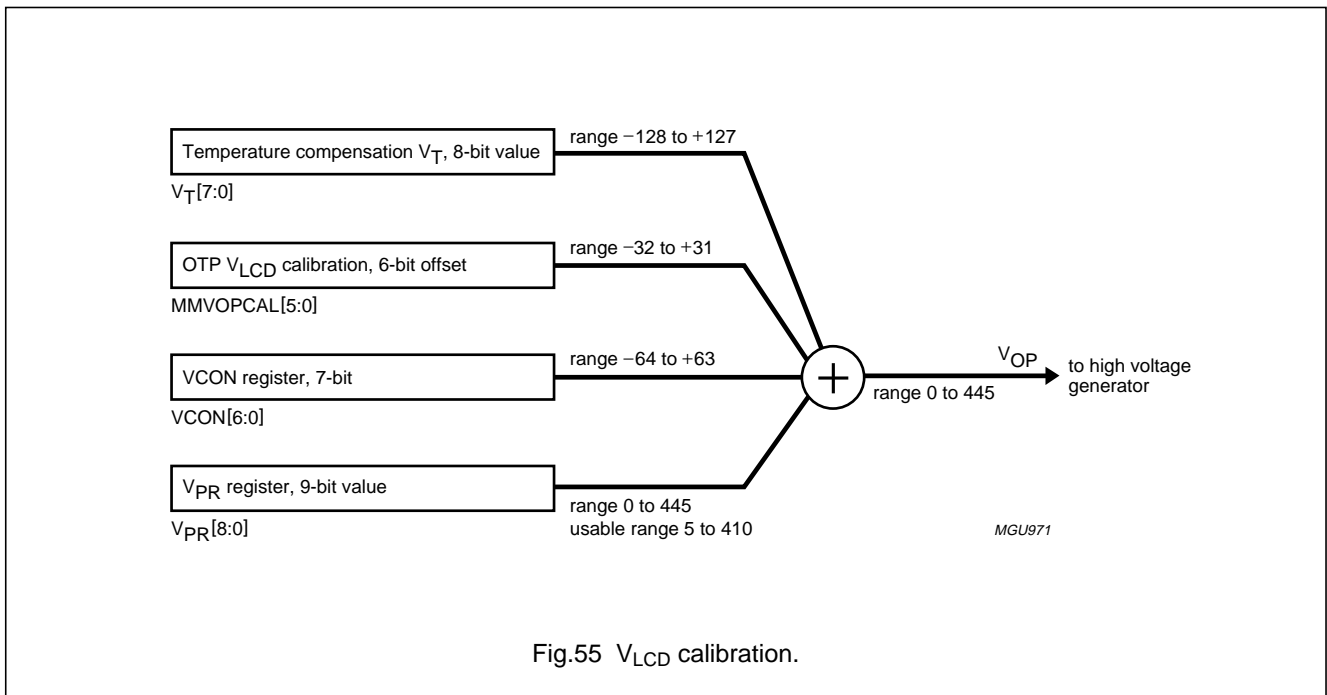

Fig.55 V_{LCD} calibration.
Figure 55 illustrates how the high voltage generator setting V_{OP} is controlled. Compared to equation (1) in Section 6.2.31, Fig.55 also takes the temperature compensation V_T into account (see Section 6.2.40), which is reflected in the following equation: